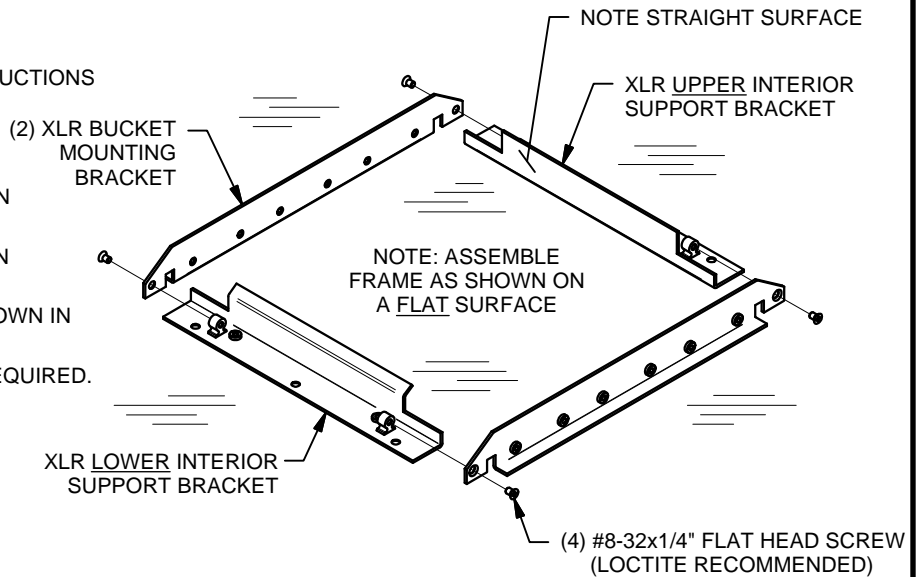

FIGURE 9
3. ASSEMBLE FRAME ASSEMBLY AS SHOWN IN FIGURE 9.